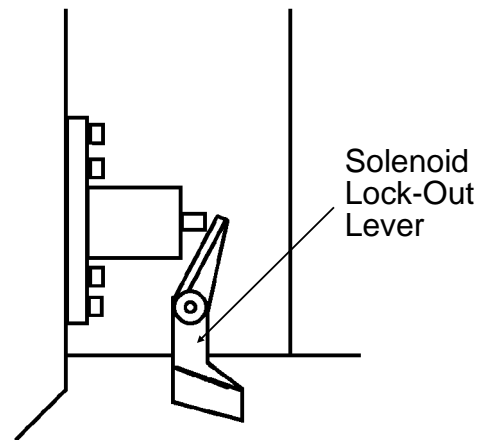

Figure 3
- B. For the EMC 6 and EMC 6/4, remove the Retaining Screw holding the Solenoid Lock-Out Lever to the rear of the Facia, and remove the Lever (See Figure 3).